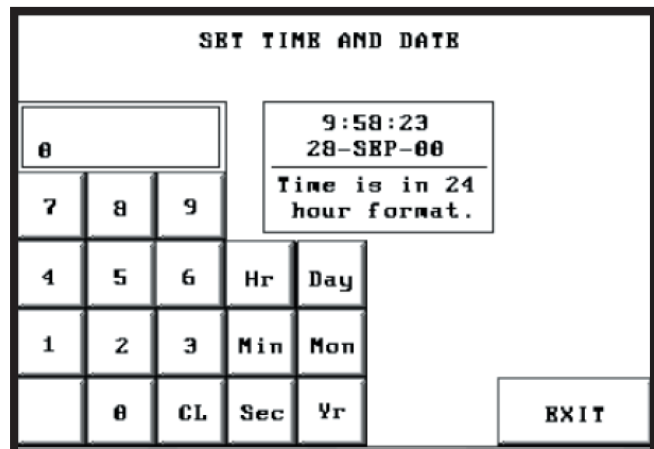

Figure 5-39 Touch Screen - Time and Date 3
2. Press the "Clock" button. The screen shown in Figure 5-39 should appear.